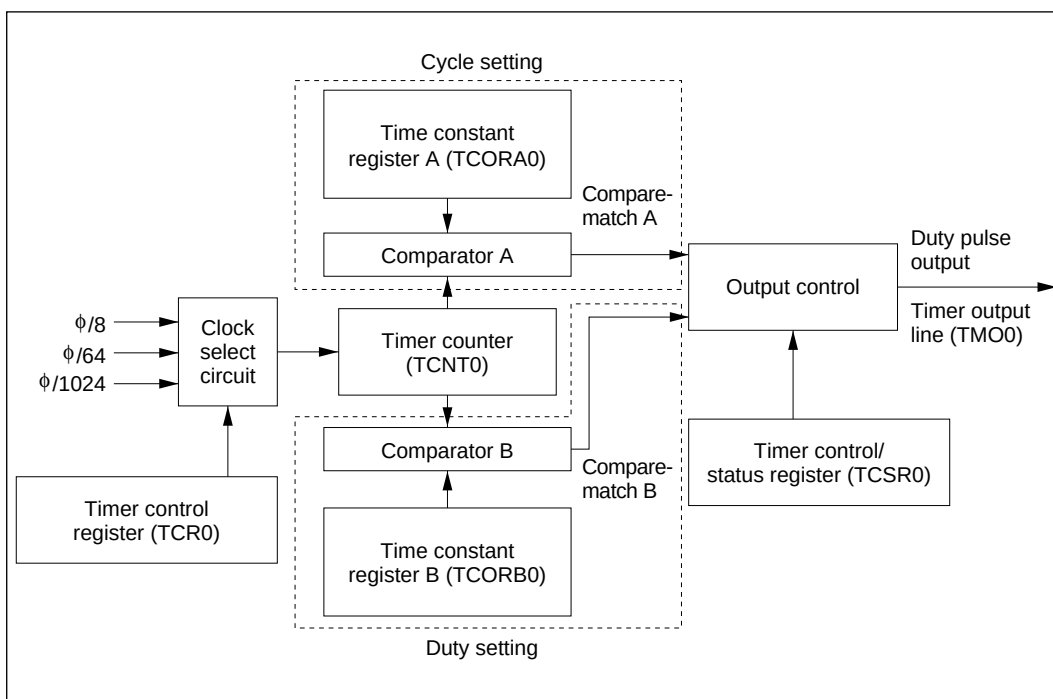

Figure 2 Eight-Bit Timer Block Diagram
1. Figure 2 shows a block diagram of the eight-bit timer used by this sample task. The eight-bit timer has the following functions:
This task uses the preceding functions for duty pulse output as shown in figure 2.